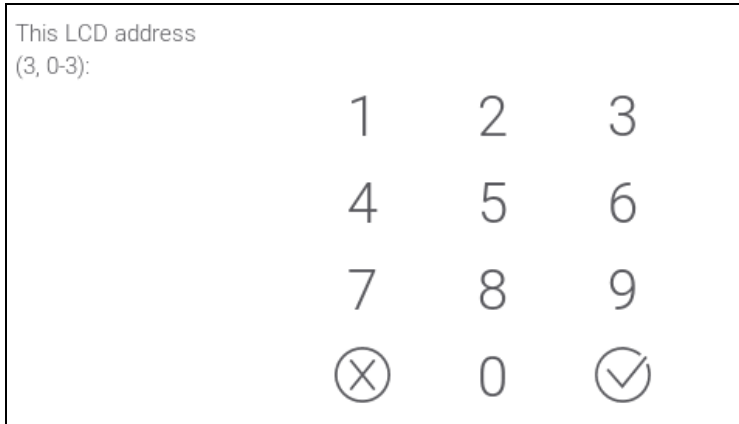

Fig. 12. Address setting.
1. Tap   . The “20.Kpd.address.” function will start. All wired keypads will display the message: “This LCD address (n, 0-3)” [n - keypad address; 0-3 – range of supported addresses] (Fig. 12).